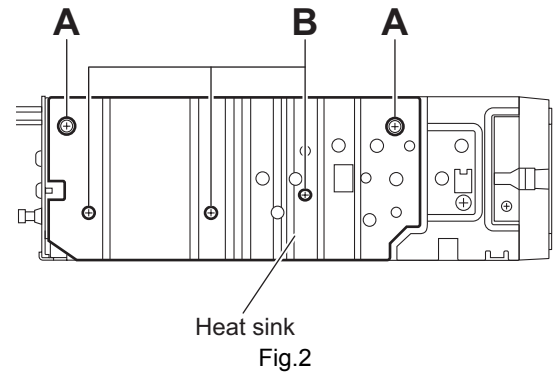

Fig.2
#### 3.1.2 Removing the heat sink (See Fig.2)
(See Fig.2)
(See Figs.2 to 4)
- (1) From the front side of the CD mechanism assembly, remove the two screws **C** attaching the right and left stoppers. (See Fig.2.)